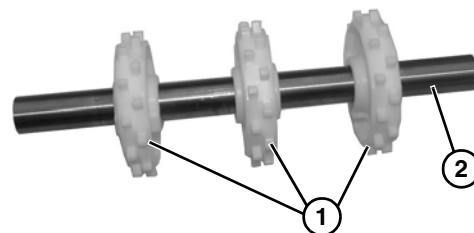

Figure 66
2. Remove three sprockets (**Figure 66, item 1**) off of shaft (**Figure 66, item 2**).